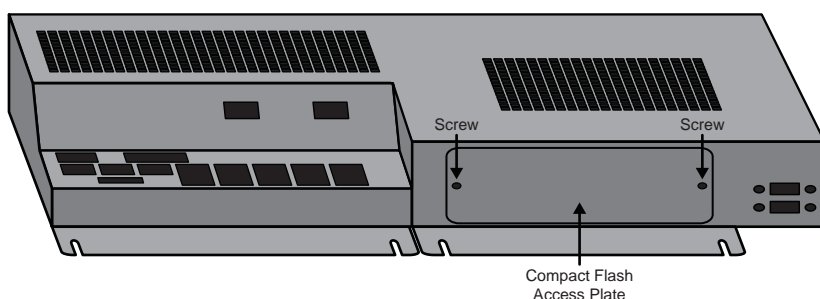

Figure 1 CompactFlash Access Plate — Control Panel CPU Module
4. Identify the **CompactFlash Access Plate** on the front of the Control Panel CPU Module (**Figure 1**).